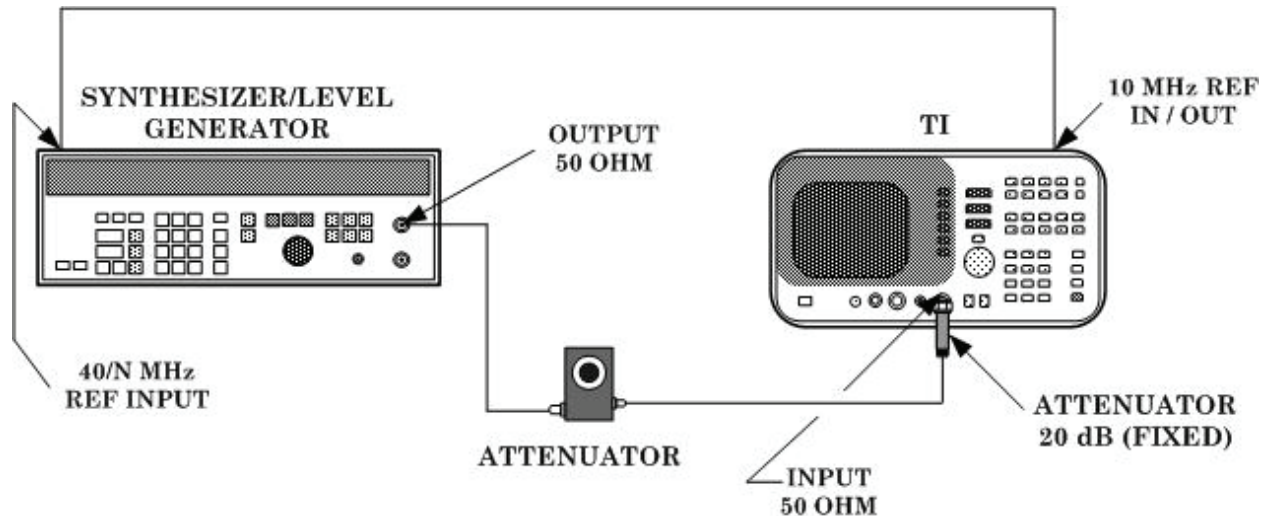

Figure 1. Input attenuator accuracy (50 MHz) - equipment setup.
(1) Connect equipment as shown in figure 1.